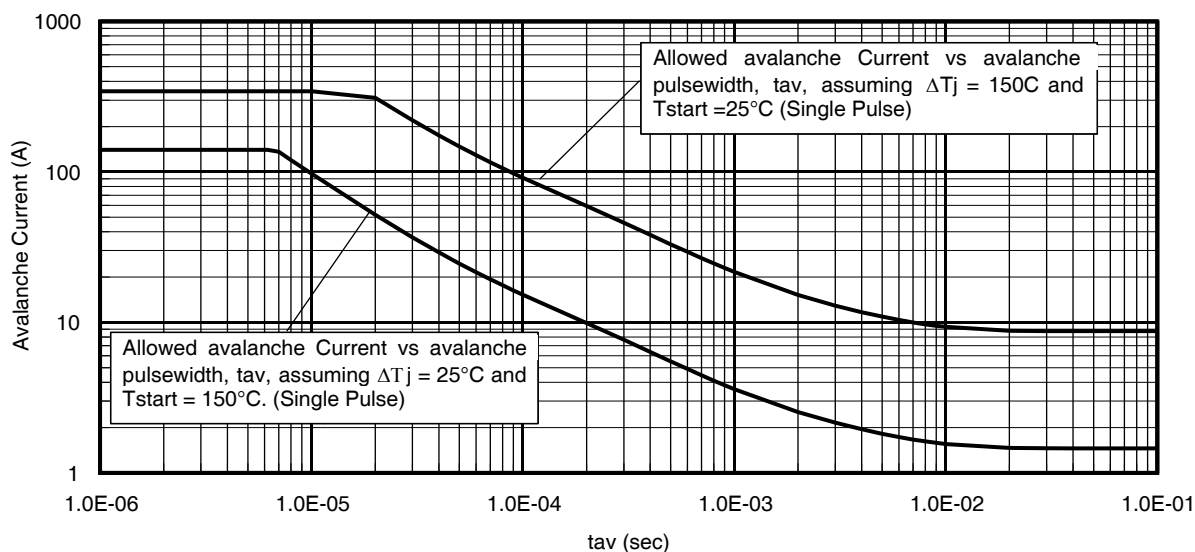

Fig 16. Typical Avalanche Current vs. Pulse Width
Notes on Repetitive Avalanche Curves , Figures 16, 17:
7. ΔT = Allowable rise in junction temperature, not to exceed T_{jmax} (assumed as 25°C in Figure 16, 17).